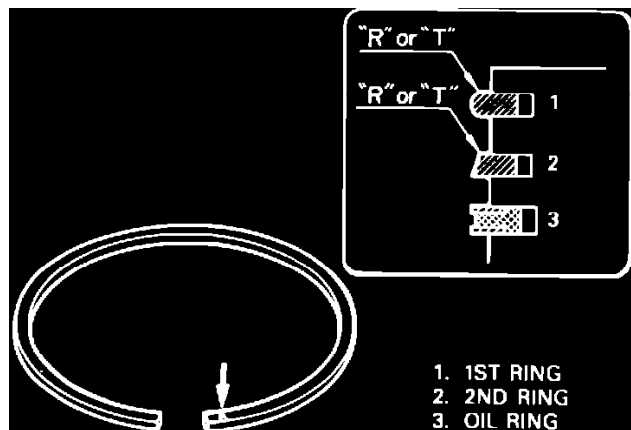

Fig. 25 Piston ring installation
3. Install piston rings so marked side of each ring faces top of piston, **Fig. 25**. Note shape of rings 1 and 2.